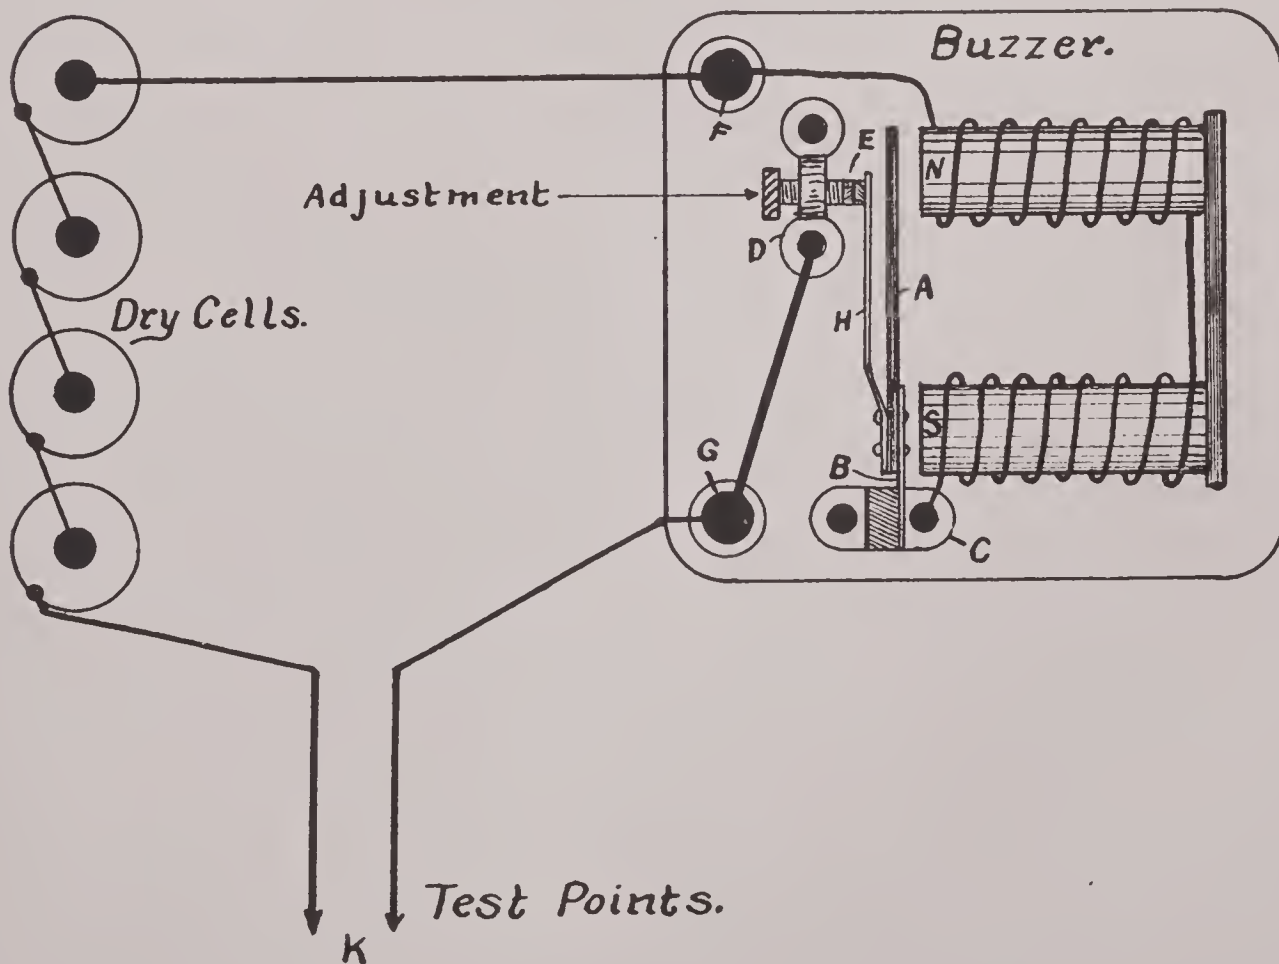

FIG. 306
The internal circuit as well as the external wiring of a buzzer outfit is shown in Fig. 306. The buzzer has two binding posts (G) and (F).